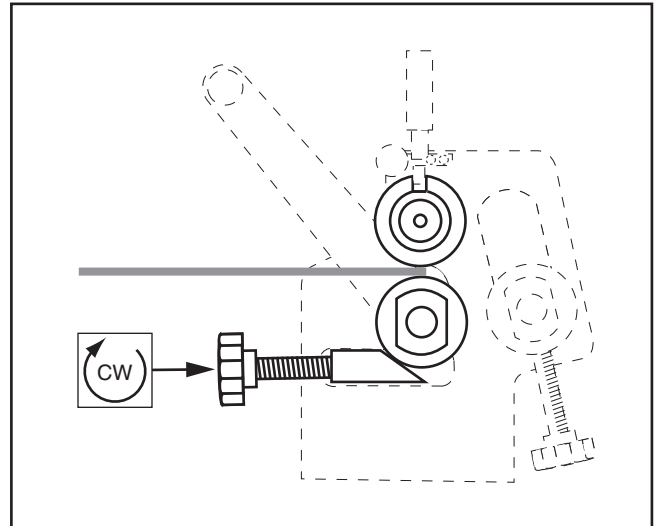

Figure 12. Raising lower roller.
3. Place workpiece between upper and lower rollers, as shown in **Figure 12**. Turn thickness adjustment knobs to raise lower roller until workpiece is held snugly between upper and lower rollers. Make sure to turn knobs equal amounts so lower roller is parallel with upper roller.